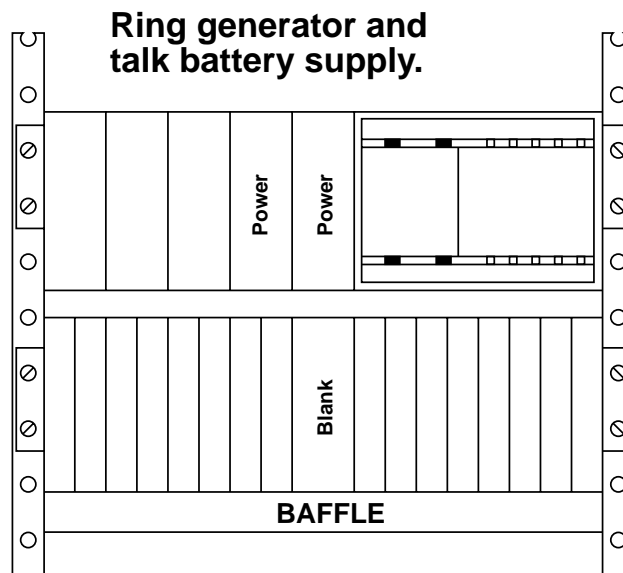
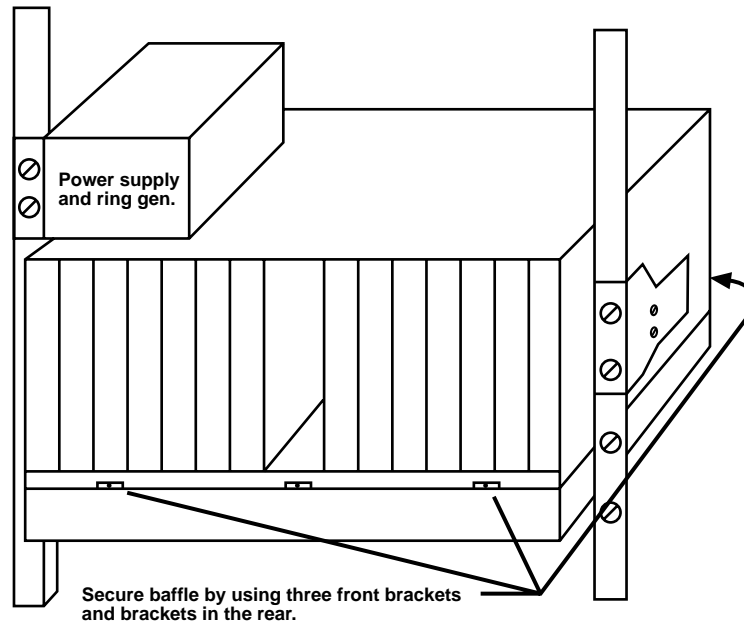

Fig. 5-6. Installing -48V power and ring generator in KTU mounting space.
Fig. 5-8. Installing -48V power and ring generator. Use this mounting if you do not have a utility shelf.
4. Install the -48 VDC power and ring generator above the shelf in the KTU mounting space if you are using the utility shelf setup as shown in **Figures 5-6** and **5-7**. If you do not have a utility shelf, install it directly above the multiplexer chassis as shown in **Figures 5-8** and **5-9**.